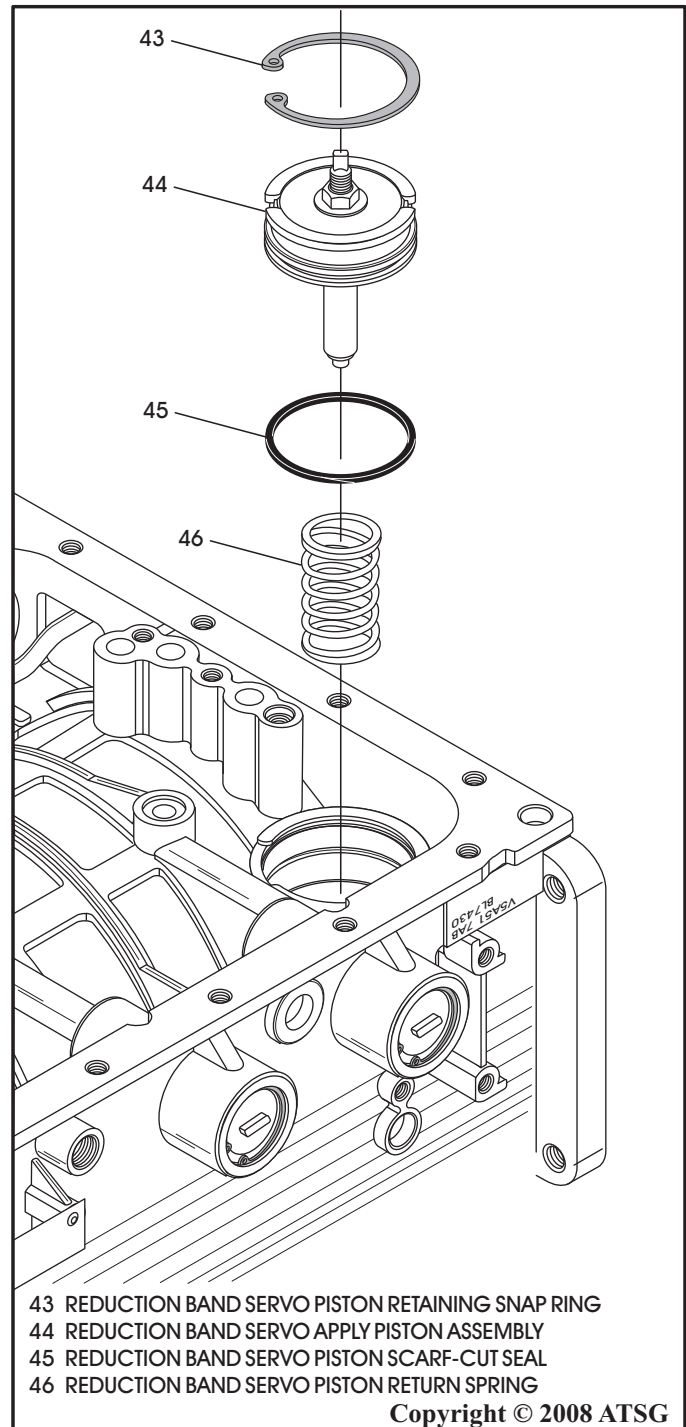

Figure 41
19. Remove the reduction band servo piston and spring, as shown in Figure 41, remove and discard the scarf-cut piston seal.